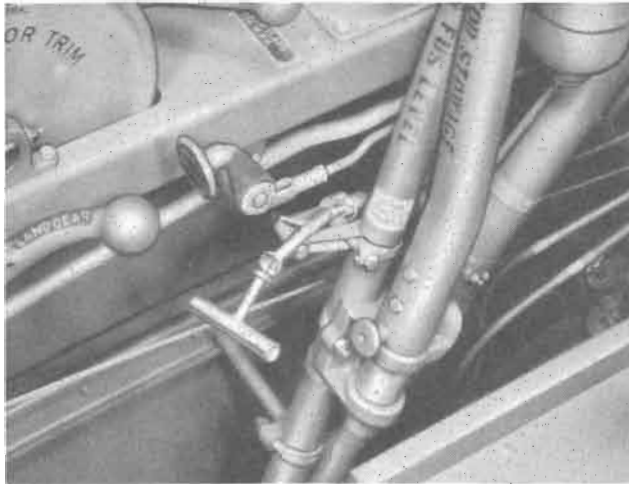

Figure 345 — Bomb Salvo Handle
20- and 30-pound bombs at the nose, and the 100-pound bombs at the tail. Except for nose-arming the 100-pound bombs, which is accomplished by the toggle switch on the electrical control panel, all arming must be done through this arming handle. The release handle, when at "LOCK" position, locks the entire system and will prevent release, either electrically or manually, of all bombs. The handle must be moved to "SELECTIVE" position before electrical release can be accomplished. In moving the release handle to "SALVO," all bombs are dropped simultaneously, either in the armed or safe condition according to the setting of the arming handle and the electrical toggle switches on the control panel. Provision is also made for a release handle in the rear cockpit (figure 345) beneath the control shelf on the left side, which will only SALVO all bombs. This is for use in an emergency and will release bombs either in the safe or armed condition, according to the position of the arming handle and the electrical toggle switches in the front cockpit.
(g) Disconnect the rear cockpit salvo release cable. (See figure 345.)
1. Attach the rear cockpit bomb salvo handle to the fuselage frame tube with a clamp and bolts. (See figure 345.)